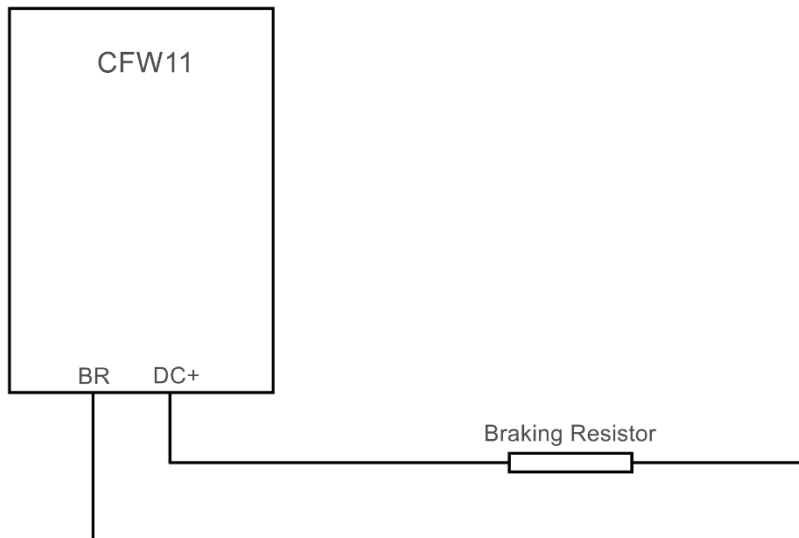

Figure 4 60HP and Less DBR wiring
- A braking unit is required and must be wired in parallel with the DBR (refer to **Figure 4**).